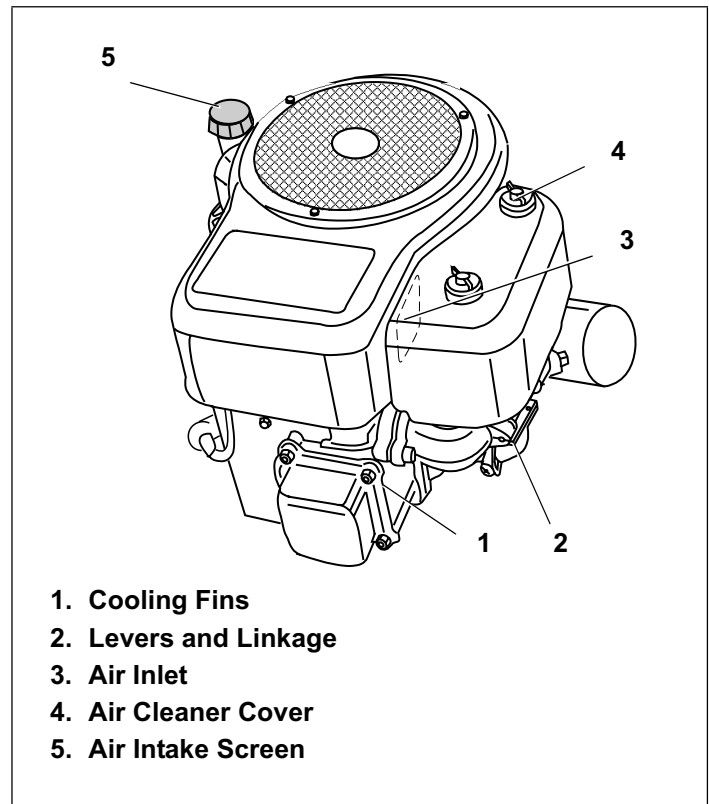

Figure 21. Debris Locations
Removing debris will insure adequate cooling, correct engine speed and reduce the risk of fire. See Figure 21.
Before removing air cleaner cover see "III. Filter Removal/Installation" instructions on page 12. Special care should be taken to prevent damage when removing air cleaner cover. See Figure 21. Afterward, continue reading instructions below.
1. Remove air cleaner cover and filters. See Figure 21